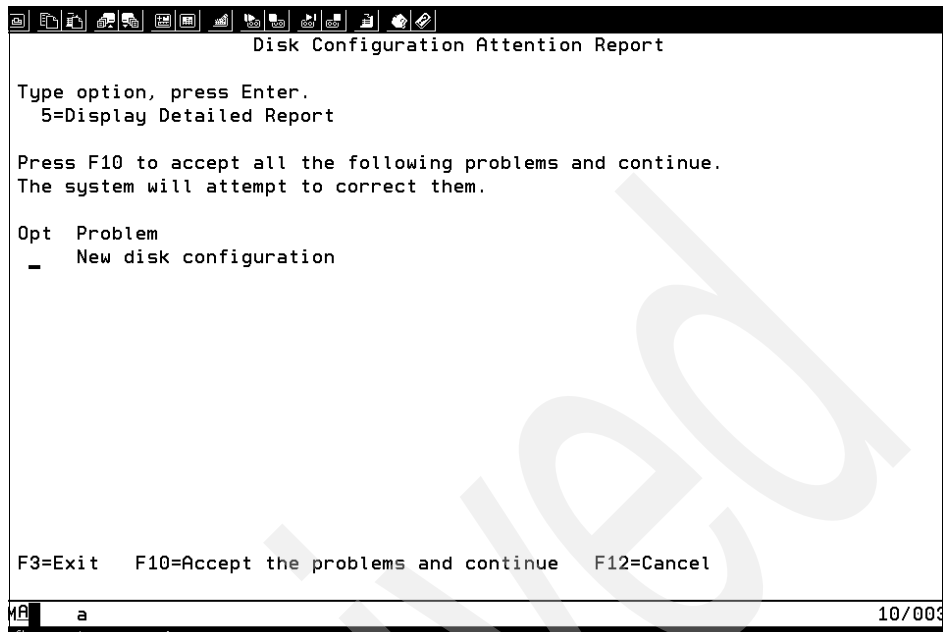

Figure 5-41 Attention Report
10. The Disk Configuration Attention Report display might appear on the console. Figure 5-41 on page 260 shows the report for a new disc configuration. Press **F10** to accept the action to define a new disk configuration.